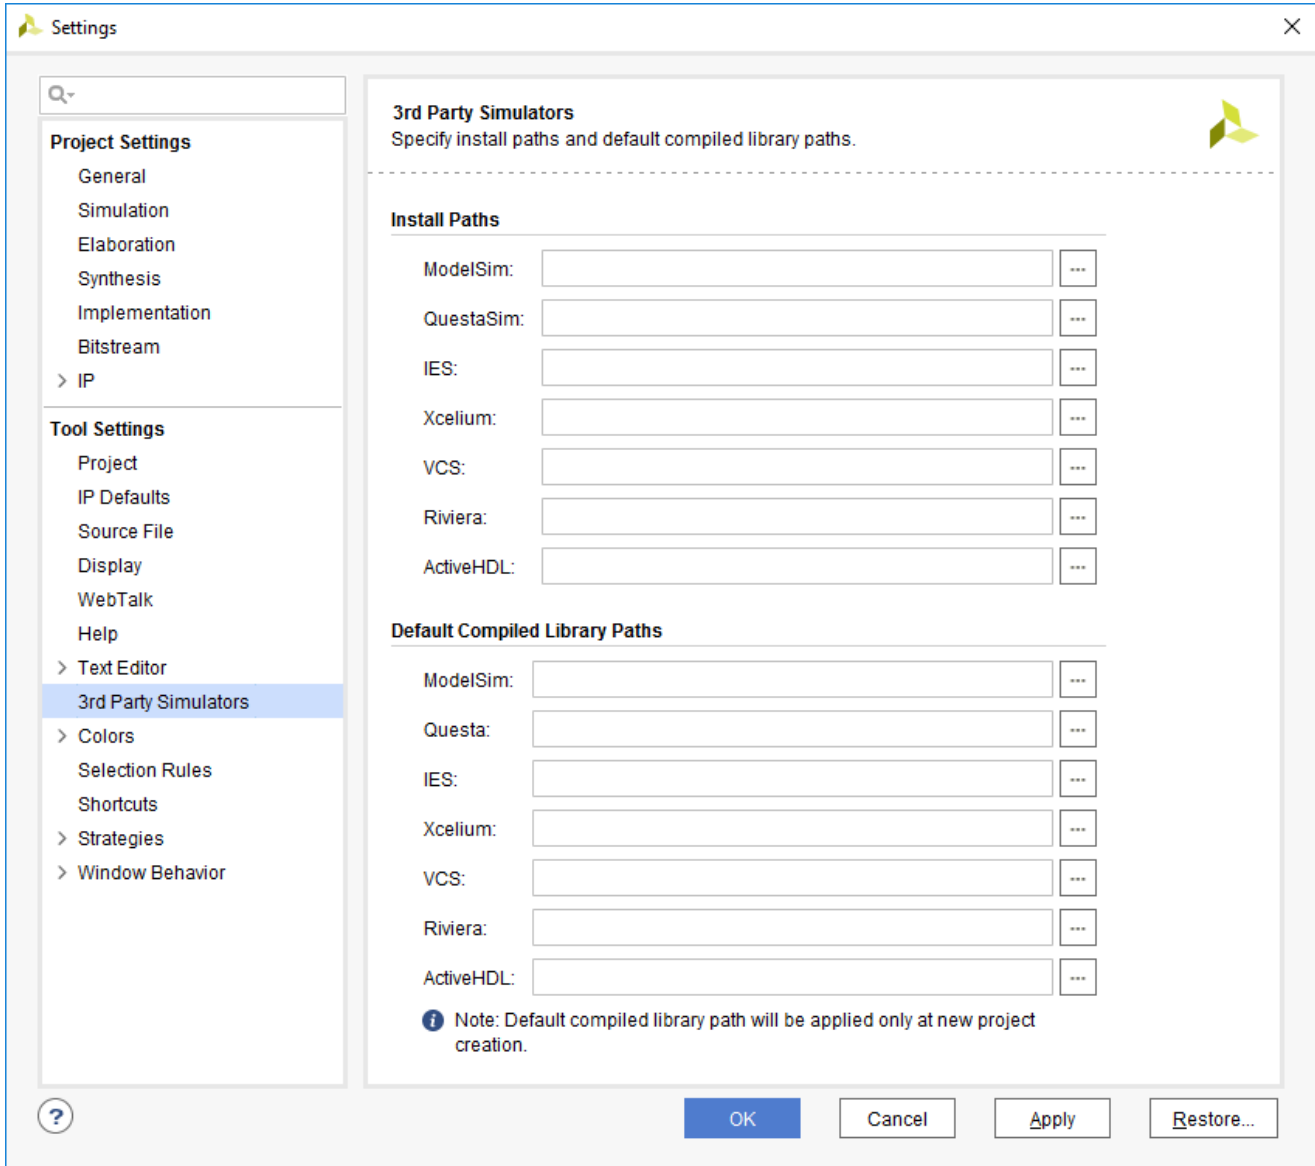

Figure 2-1: Vivado Design Suite 3rd Party Simulators Install Path
2. In the 3rd Party simulators tab of the Settings dialog box, select the simulator under the Install Paths as shown in Figure 2-1, and browse to the installation path.